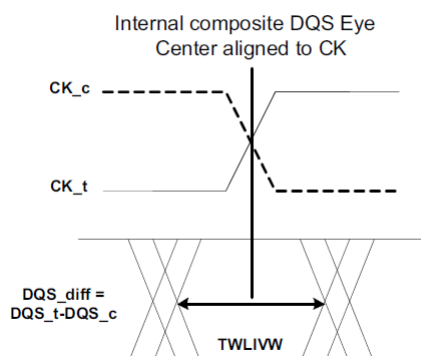

Figure 25. DQS_t/DQS_c to CK_t/CK_c timings at the DRAM pins referenced from the internal latch
- 28) tWLIVW is defined in a similar manner to tdlVW_Total, except that here it is a DQS input valid window with respect to CK. This would need to account for all VT (voltage and temperature) drift terms between CK and DQS within the DRAM that affect the write-leveling input valid window. The DQS input mask for timing with respect to CK is shown in Figure 25. The "total" mask (tWLIVW) defines the time the input signal must not encroach in order for the DQS input to be successfully captured by CK with a BER of lower than tbd. The mask is a receiver property and it is not the valid data-eye.